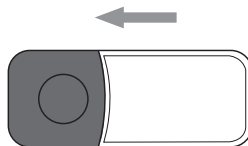

Fig. 2
- ◆ Place the transmitter on the wall bracket **10** so that the retaining tabs on the wall bracket **10** protrude into the two openings on the back of the transmitter. Then slide the transmitter towards the ringer button **7** so that the retaining tabs glide into the openings and the transmitter sits firmly on the wall bracket **10** (see fig. 2).